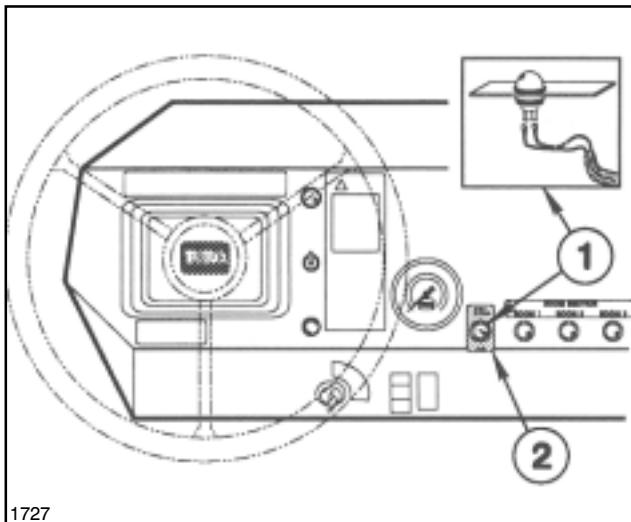

FIG. 3
- Install Sonic Boom™ Decal and Indicator Light on Dash, and connect Harness Leads to Light. See FIG. 3.